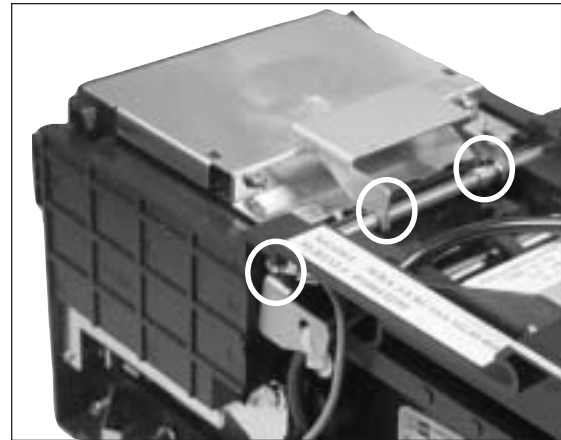

Figure 1
- a. Remove the two (2) E-rings securing the swivel plate in place (Figure 1).
- b. Remove the screw securing the ground wire standoff on the side of the transport and remove the last E-ring (Figure 1).